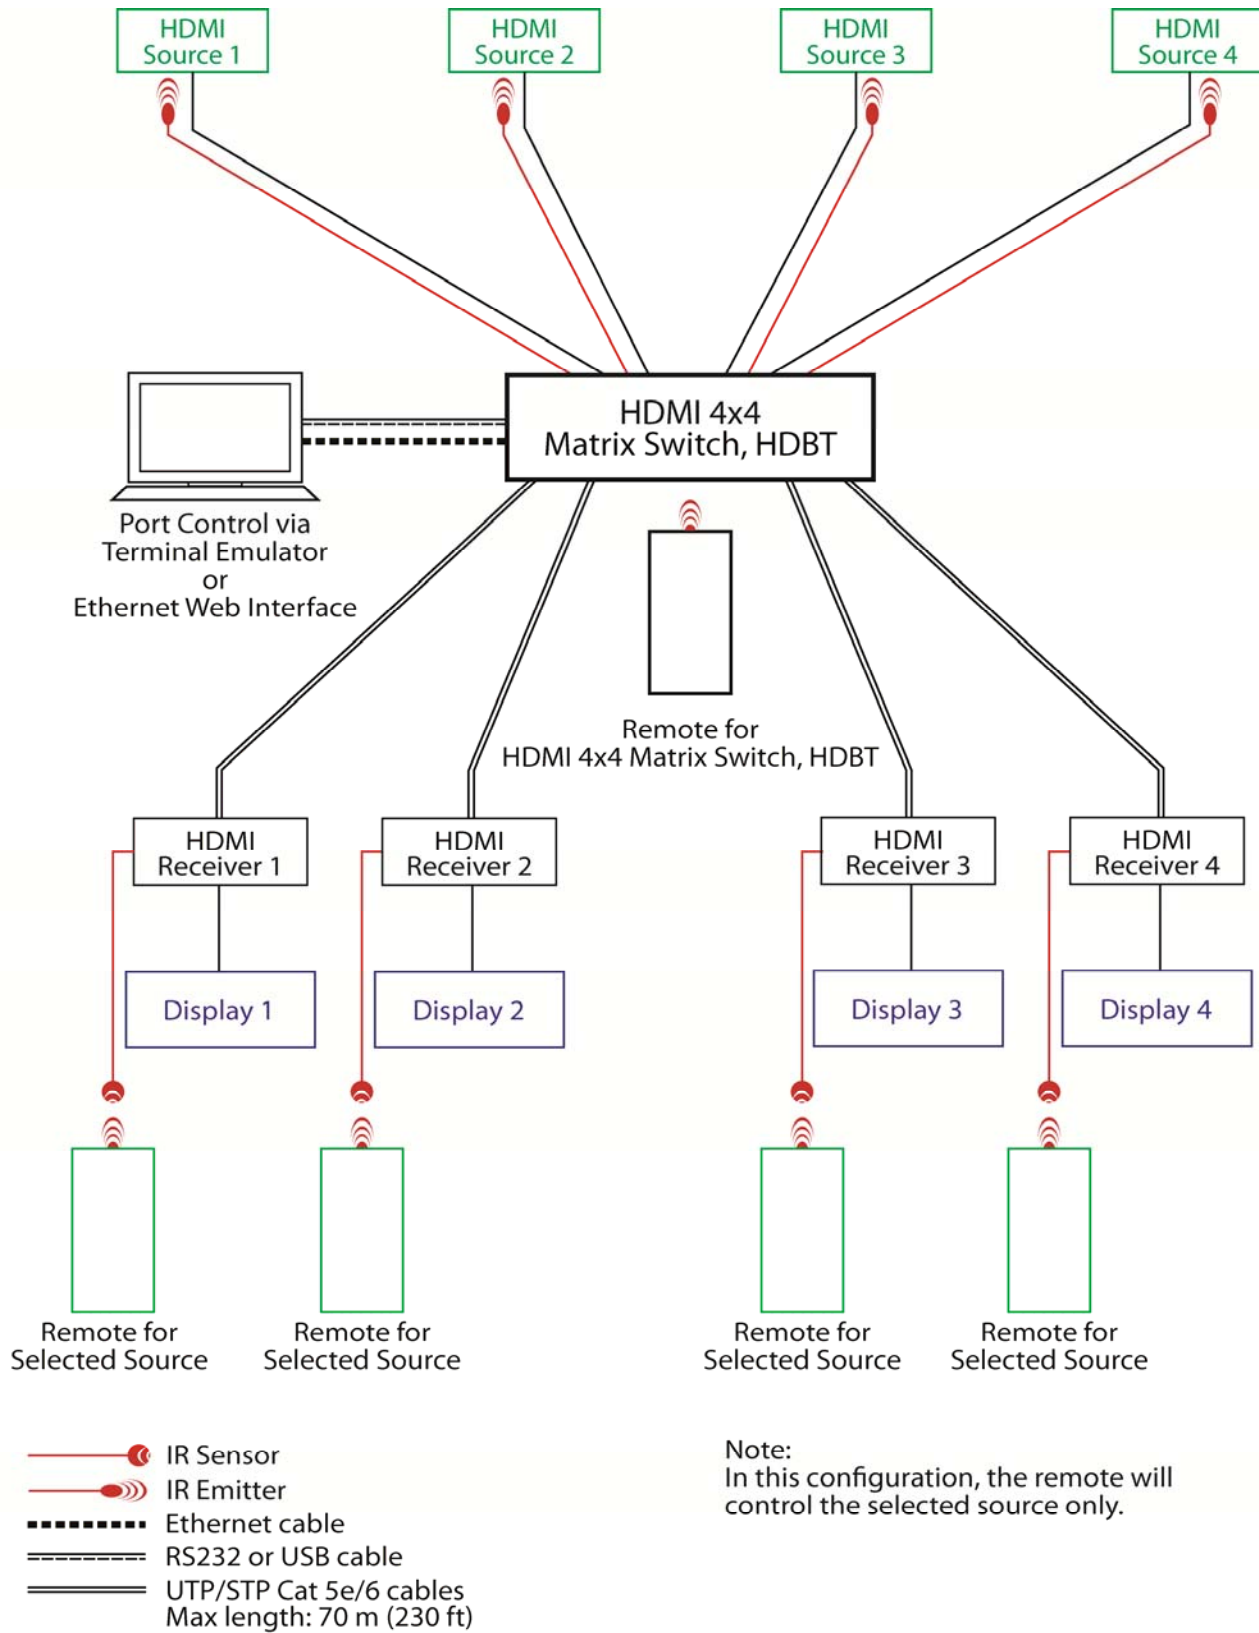

Figure 6: Typical Configuration (I)
10. Figures 6 and 7 show some typical configurations.
Using source remotes, sources can be controlled at display locations via receivers (see Figure 6). To do so, make sure that the IR emitter cable leading from the *IR Emitters* port 1 on the back of the Matrix Switch has its emitter end placed in front of IR sensor on source 1. Do the same for all ports and all sources (see Table 3).